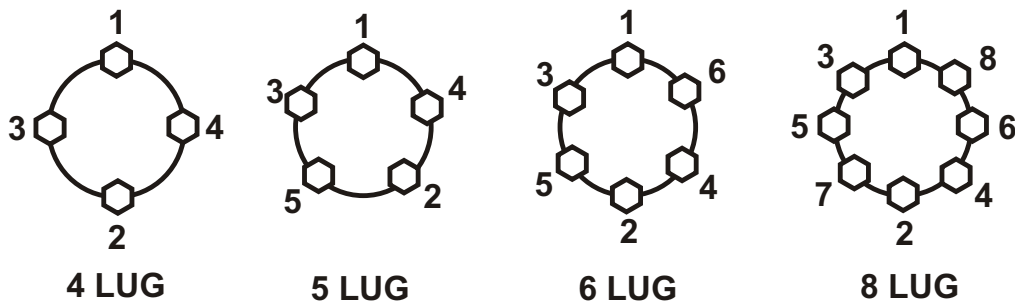

Fig. 5
2. Tighten the nuts in the sequence shown in Fig. 5.